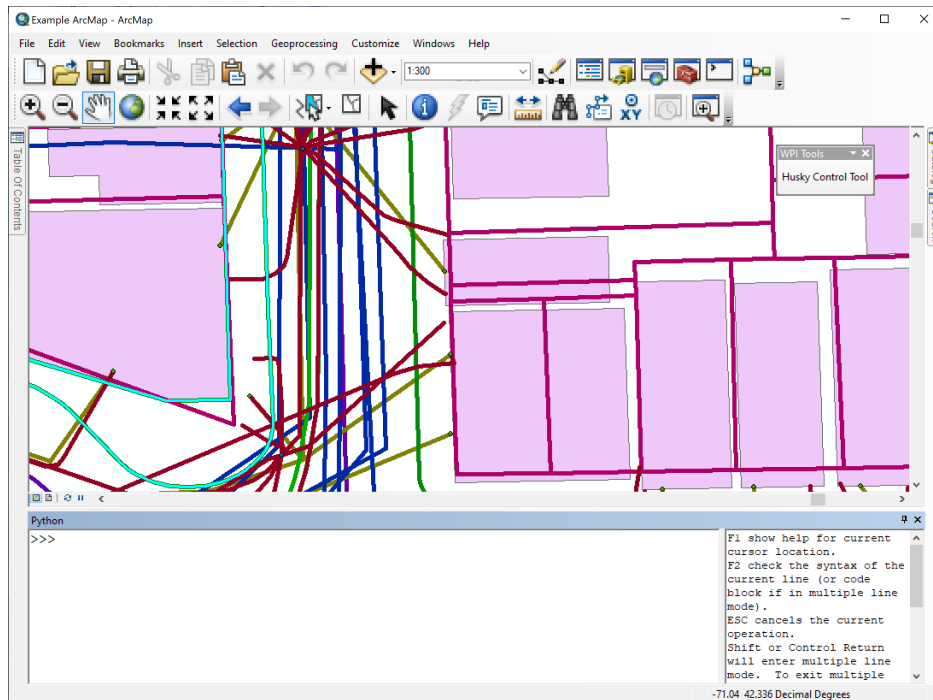

Figure 22: ArcMap Python Terminal
2. Run the following **command** in the python terminal (Fig 22) to locate the 'site-packages' directory